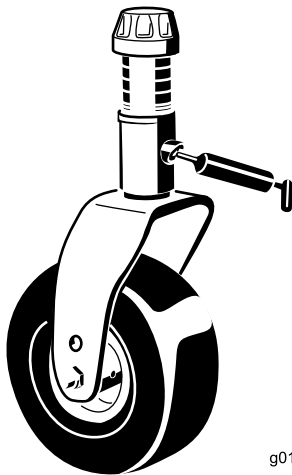

Figure 41
- 2 caster-fork-shaft bushings (Figure 41)